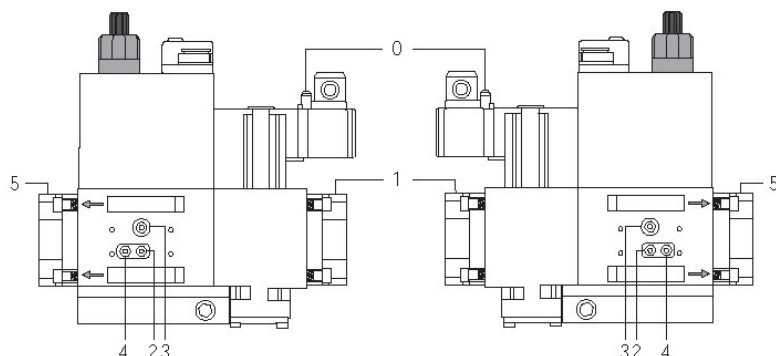
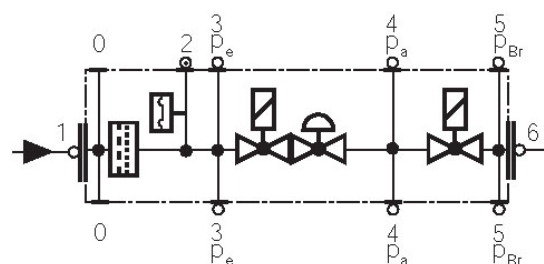

Fig. 19
Fig. 20
- Change the filter if the pressure difference between pressure connection 1 and 2 (Fig. 19-Fig. 20)  $\Delta p > 10$  mbar.
- Change the filter if the pressure difference between pressure connection 1 and 2 (Fig. 19-Fig. 20) is twice as high compared to the last check.